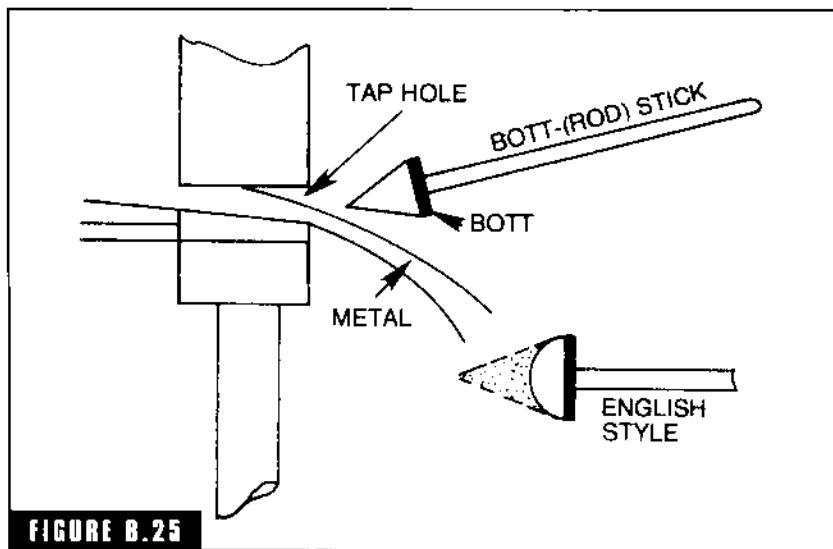

FIGURE B.25
**bott stick** More often called a *bott rod*. It is a rod  $\frac{1}{4}$  inch in diameter 8 feet long with a 2-inch diameter plate welded to the business end and a loop handle on the other (Fig. B-25). It is used to place the bott firmly into the tap hole of a cupola or air furnace to shut off the flow of metal. The bott is stuck to the flat plate by wetting the